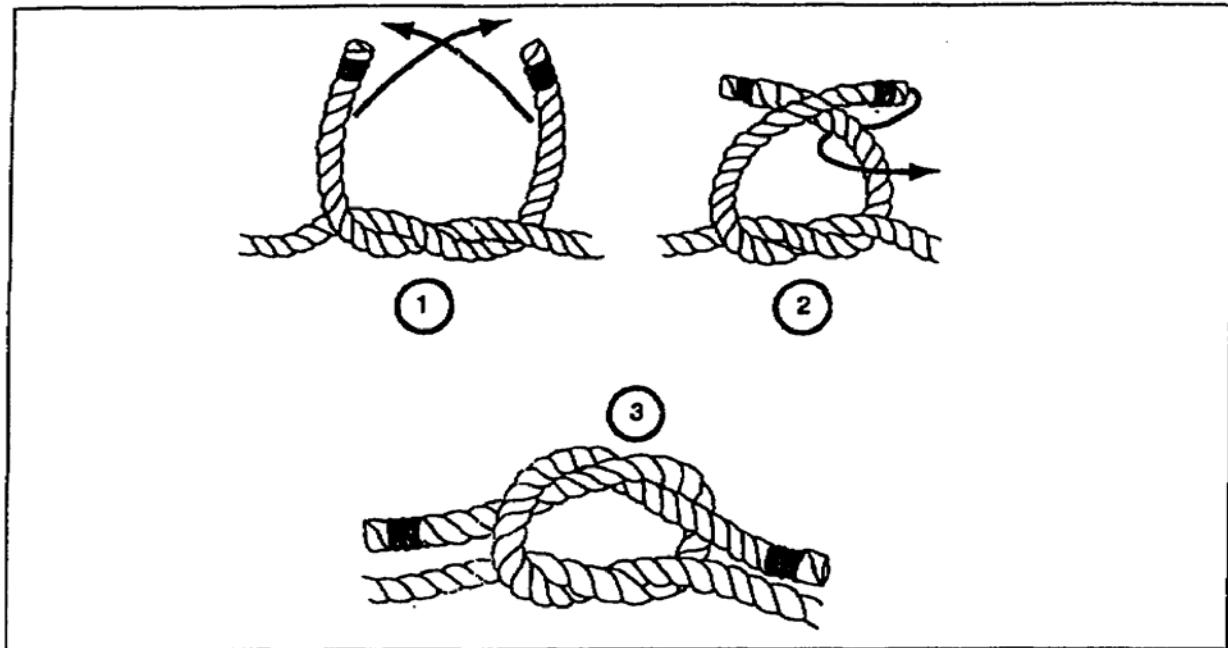

Figure 4-22. Square knot
a. **Square Knot.** A square knot (Figure 4-22, page 4-18) is used to tie two ropes of equal size together so they will not slip and are easily untied. Note that the square knot, the running end and standing part of one rope come out on the same side of the bright that is formed by the other rope. The square knot will not hold if the ropes are set or if they are of different sizes. It tightens under strain but can be untied by grasping the ends of the two brights and pulling the knots apart.